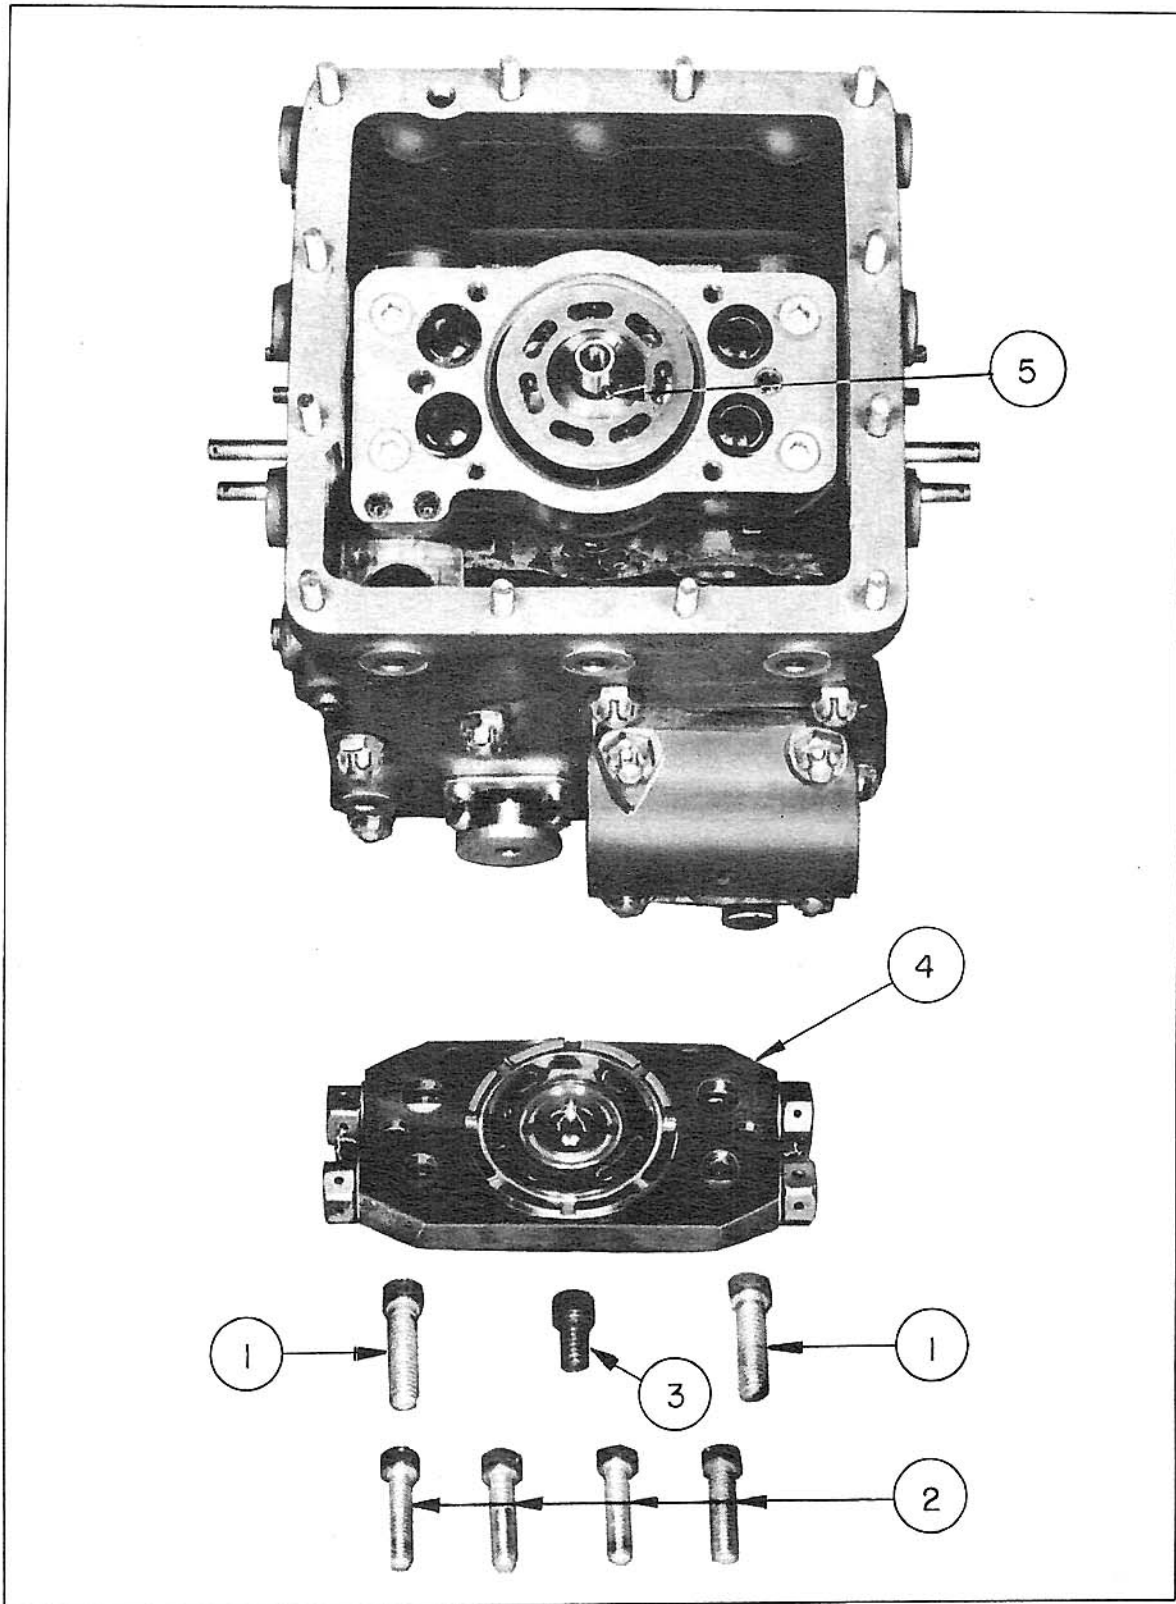

FIGURE 26
6. "A" End Valve Plate (Fig. 26)
7. "A" End Valve Plate (See Figure 26.) - a. Take out the two screws (1) the four screws (2), and the one screw (3) which attach the valve plate (4) to the yoke, being careful to hold the valve plate down as the screws are removed. Place one of the screws (1) in the middle hole where screw (3) was removed and use this to press down on the "A" end rotating assembly as the valve plate is lifted off. Finally, remove the screws (1) and the valve plate can be lifted off, leaving the "A" end rotating assembly intact.
7. "A" End Valve Plate (Fig. 26)
8. "A" End Valve Plate (See Figure 26.) - a. Turn the pin (5) in the "A" end shaft so that it runs straight across from A to B end in order that it will lay in the corresponding slot of the valve plate. Lay the valve plate in place, then rotate it while pushing down evenly and observe if the pin and shaft are rotating together. This is done to check proper positioning of the pin in the valve plate. Put in the 3 middle Allen screws first (2, (1) and 1, (3) ) and after pulling the plate down evenly, put in the 4 screws (2) and safety wire the screws.